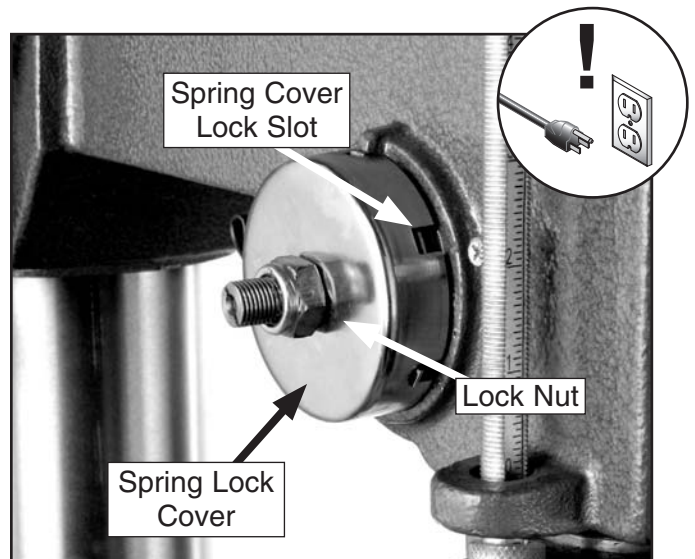

Figure 43. Return spring assembly.
2. Wipe off any oil on the spring lock cover so it does not slip in your fingers when you hold the cover from spinning (see **Figure 43** for spring lock cover identification).